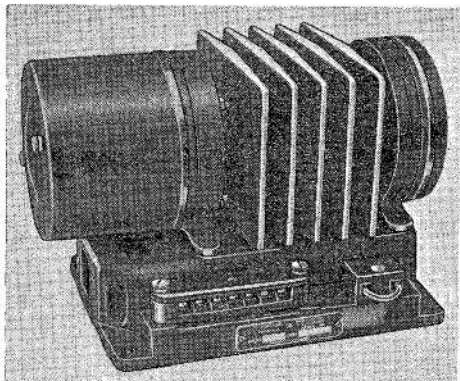

Fig. 1. Voltage regulator Type 114
2. The regulator (fig. 1) is of the single carbon pile type, and in general construction and principle of operation is similar to the standard design as described in A.P.113D-0003-16 (formerly A.P.4343, Vol. 1, Sect. 6,